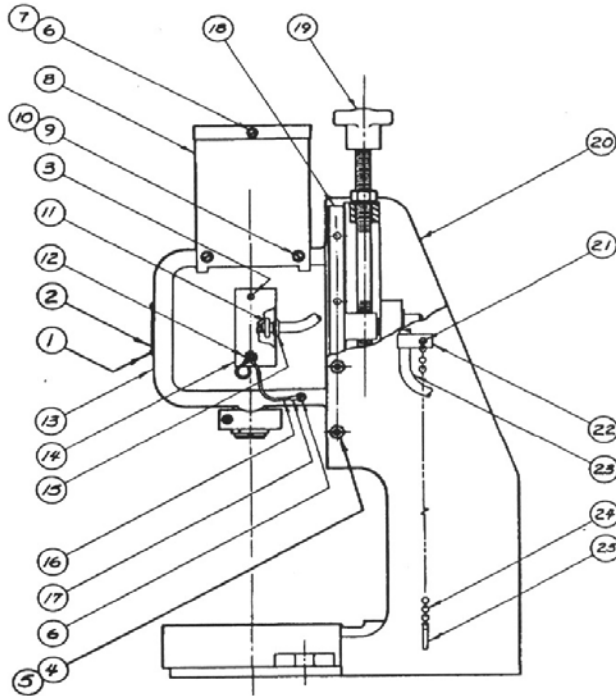

Figure 3.
1. Loosen the two large cap screws [fig. 2 (pg. 6), #17] that are holding the yoke clamp (fig. 2, #15). Next, loosen the four set screws [fig. 3 (pg. 7), #4] on the right side of the frame which hold the gib (fig. 3, #18) in position. **Caution-** Excessive loosening will result in the gib falling out.
2. Position the head for easy access to the spindle. This is accomplished by using the hand-wheel on the elevating screw assembly (fig. 3, #19).
3. Install and lock tool in spindle. Pull spindle down and insert taper pin (fig. 3, #25) in hole provided. Insert work-piece in nest. Lower head until the tool engages the work-piece.
There are only two moving parts in the Electropunch – the spindle and solenoid plunger. The spindle bearing should be lubricated every few days with two drops of "Moluballoy" spindle oil. (A tube is provided with each machine.) If operation is in an area where dust or dirt may collect on the spindle, cleaning regularly is recommended. These contaminants tend to be "dragged" into the bearing at each stroke causing the Electropunch to become sluggish and reducing its power. If this occurs, the spindle and bearing should be disassembled and cleaned with "carbon tetrachloride" or other solvent. Wipe clean and apply two drops of "Molub-Alloy Lubricant" oil when reassembling. Remove the guard cover (fig 3, #8) to find the oil hole.